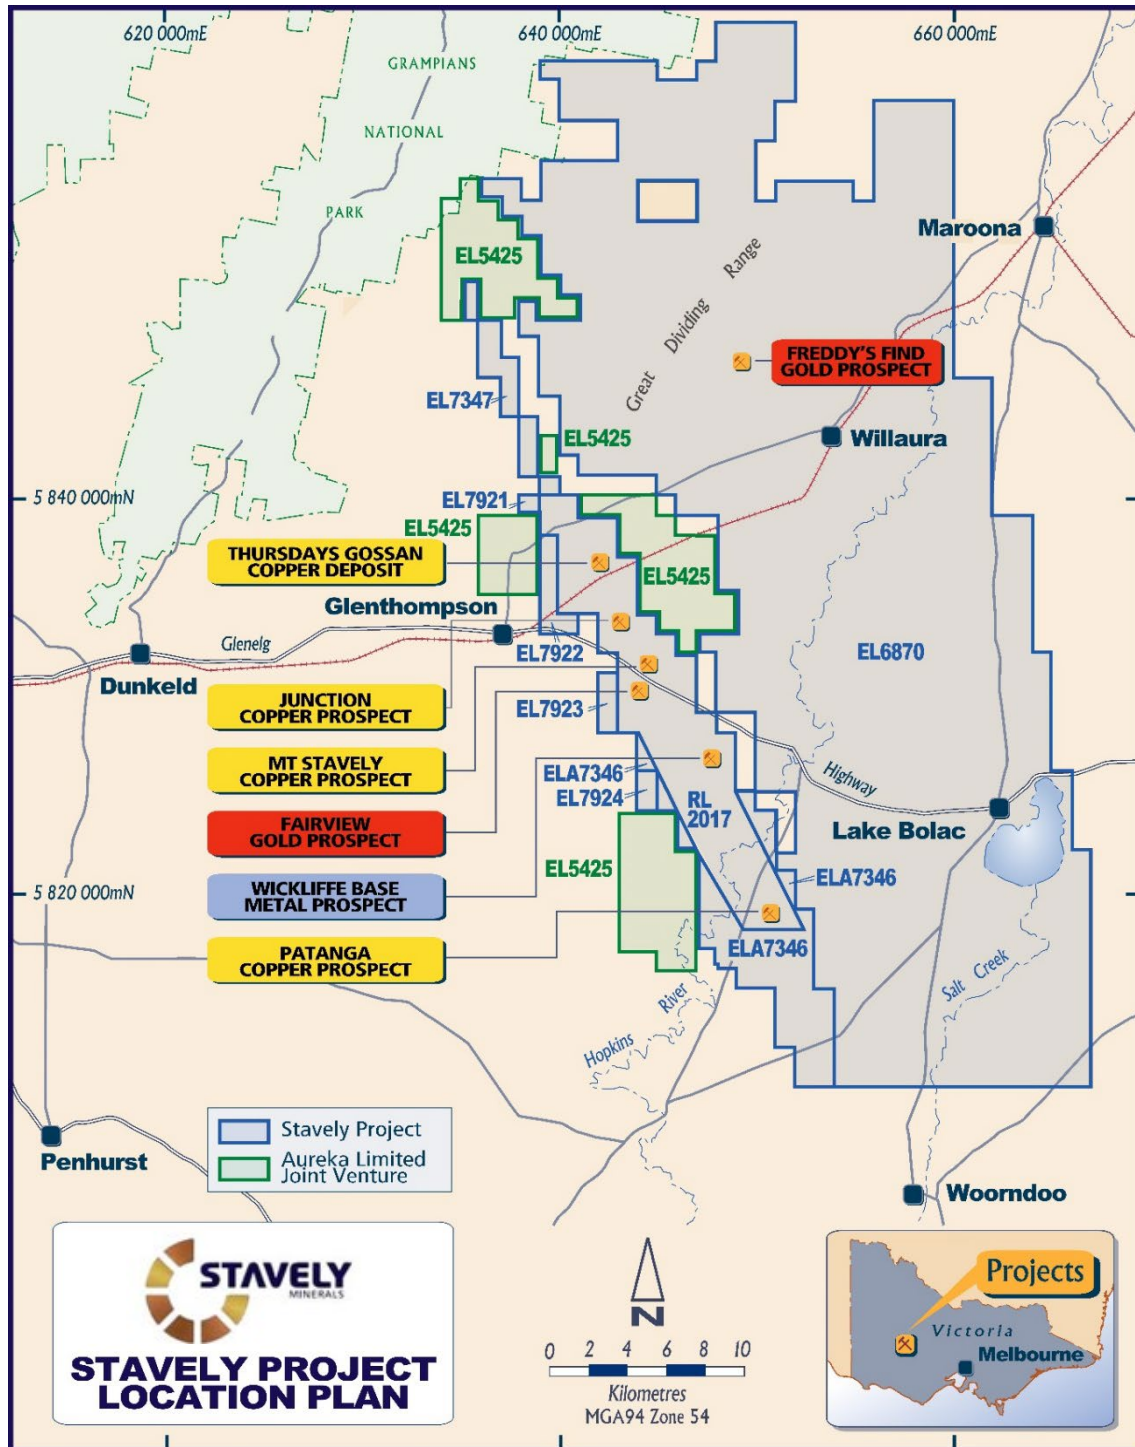

Figure 1. Stavely Project / Prospect location map.
Stavely Minerals Limited (ASX Code: **SVY** – “Stavely Minerals”) is pleased to advise that it has received assay results from a partially completed reconnaissance Reverse Circulation (RC) drilling program at the Freddy’s Find (S41) breccia-hosted gold prospect, located within its 100%-owned **Stavely Copper-Gold Project** in western Victoria (Figure 1).